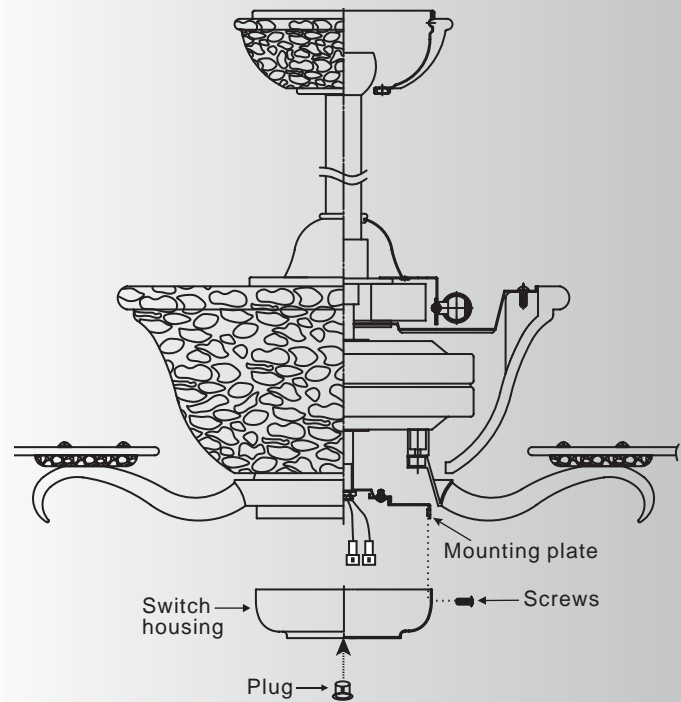

Fig. 20
2. Attach the plastic plug to the switch housing. (Fig. 20)
3. Install the switch housing to the mounting plate with screws provided. (Fig. 20)